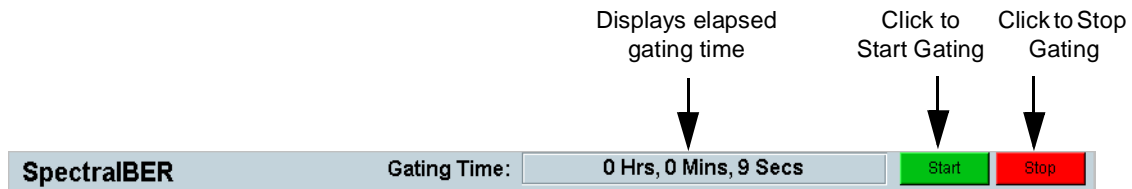

Figure 3-2. Gating Control
- Figure 3-2 on page 24 shows how to Start and Stop gating.